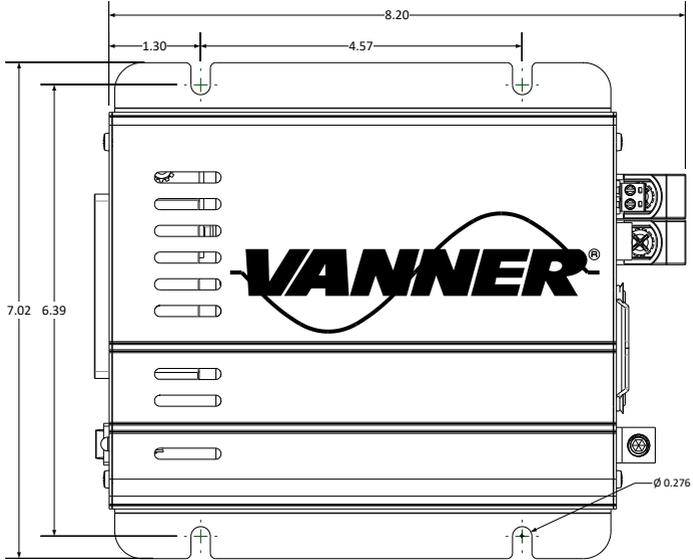

Figure 2. TS series drawing (Top View)
- ② Normal load Condition : Vin =12.5V/25V, Vo=100/110/115/120 VAC 80% Full load (PF=1.0)
- ③ Operating temperature : Please refer to Figure 2